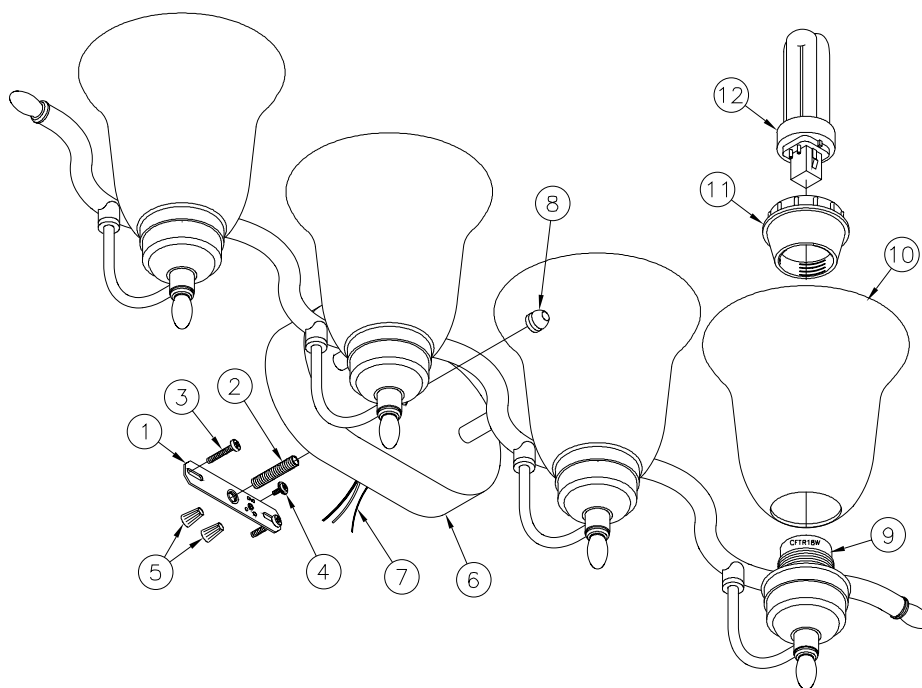

Fig.1
1. **Remove fixture components and parts pack(s).** Check that all parts are included. \_\_\_\_\_ **See Fig 1.**